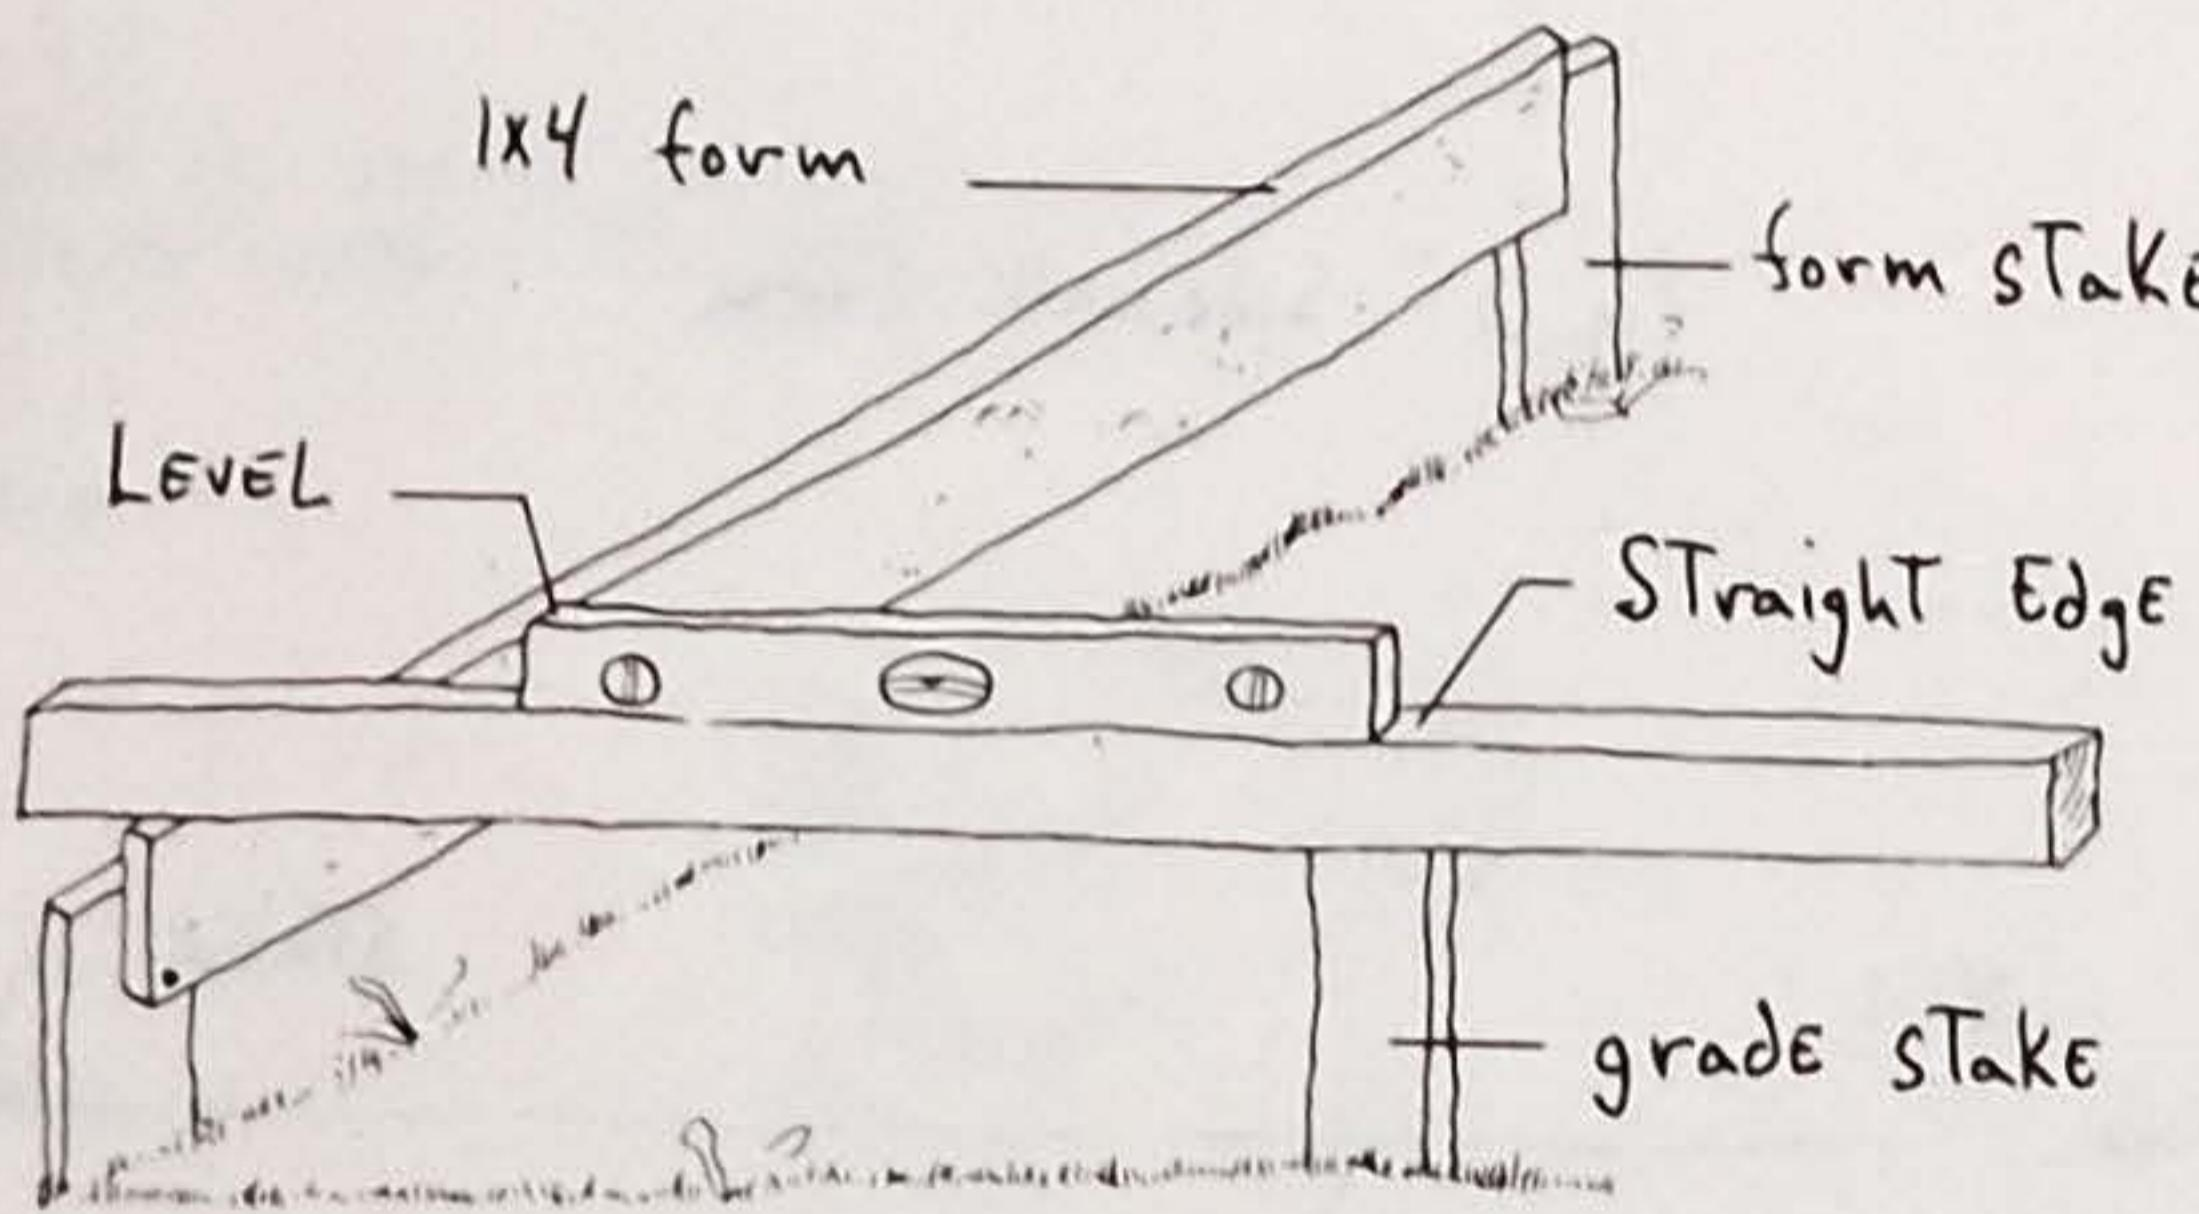

Fig. 4- LEVELING OVER from a Grade STAKE
- Once the grade has been determined and the stakes pounded in, to a little below grade, the 1x4" forms can be leveled and nailed to the stakes. Start at one end and nail one end of a 1x4" to the first stake with one nail so that the top edge of the 1x4" is at grade. One nail is used at the first end of each piece of 1x4" so that the other end can be moved up and down as the form is being leveled. The top edge of the first piece of 1x4" is set at grade by leveling over from the grade stake to the top edge of the first 1x4" by using a level, a level and straight edge, a water level, or a builder's level. Fig. 4.
See Roofs: Fig. 4